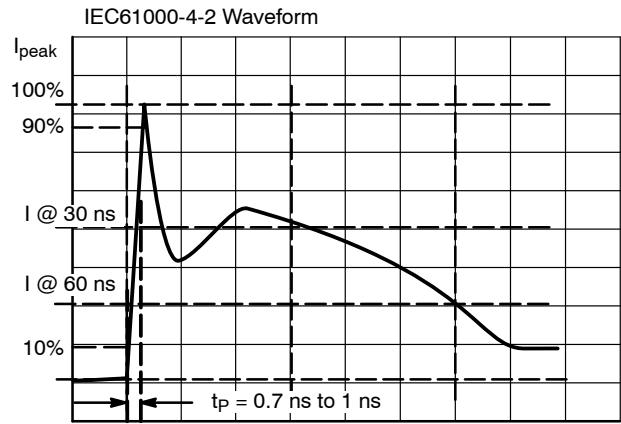

Figure 13. IEC61000-4-2 Spec
- For test procedure see Figures 13 and 14 and application note AND8307/D.